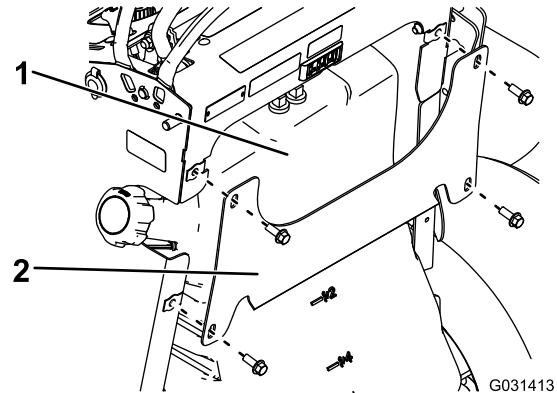

**Figure 47**
3. Clean around the fuel cap to prevent debris from getting into the fuel tank (Figure 47).